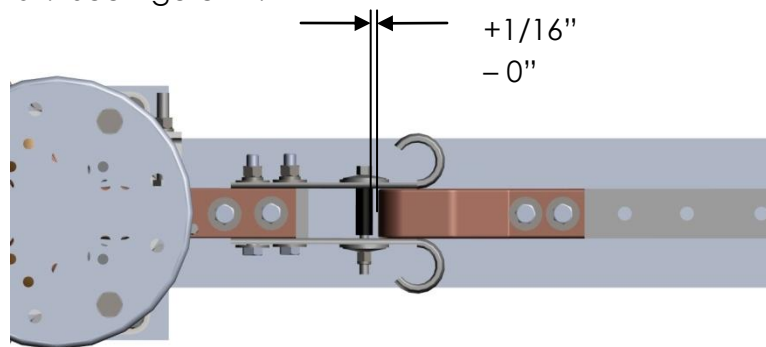

Figure 11: Male Blade Tip Depth
- 3) Measure the gap between the blade tip and the blade stop. The gap should be less than 1/16". See Figure 11.